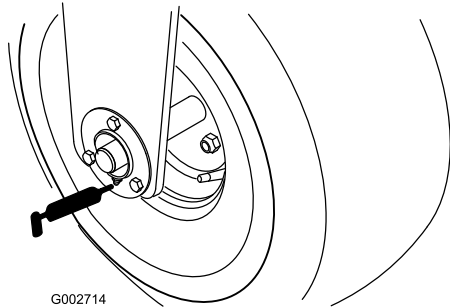

Figure 19
- Front wheel bearing (1) (Figure 19)